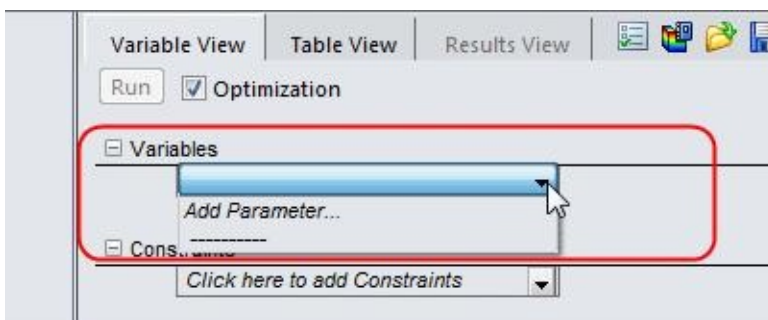

Figure-16. Variables drop-down
- Click on the down arrow under the **Variables** node. A list of variable options will be displayed; refer to Figure-16.